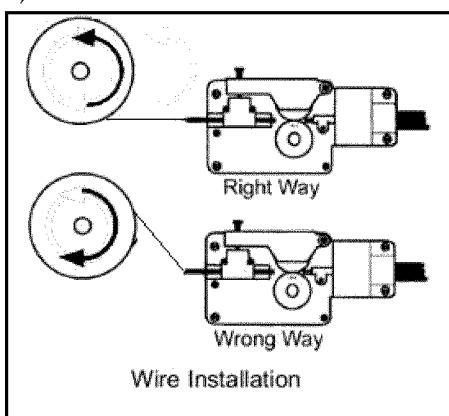
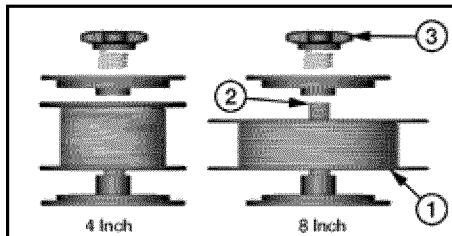

Fig. 4
Fig. 5
2.4 Place the spool (Fig. 5, 1) on the spool hub (Fig. 5, 2) so the wire will pull off the bottom of the spool. The welding wire should always come off the bottom of the spool into the drive mechanism (Fig. 4).
2.5 The welder can use either 4 inch or 8 inch spools. See Figure 5 for additional reference. The thumb nut (Fig 5, 3) is used to tighten the spool onto the spool hub and controls the tension of the spool.